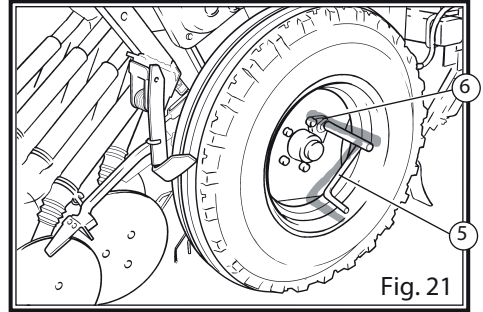

Fig. 21
**THIRD:** Raise the seed drill using the tractor until the wheels can turn freely. Place the calibration crank (5, fig. 21) in the bolt on right wheel (6, fig. 21) and turn it clockwise until the fertilizer starts to fall onto the calibration cup. At this moment, stop turning, remove this fertilizer and start turning the crank again to perform the real turns of the test as indicated in the table below: